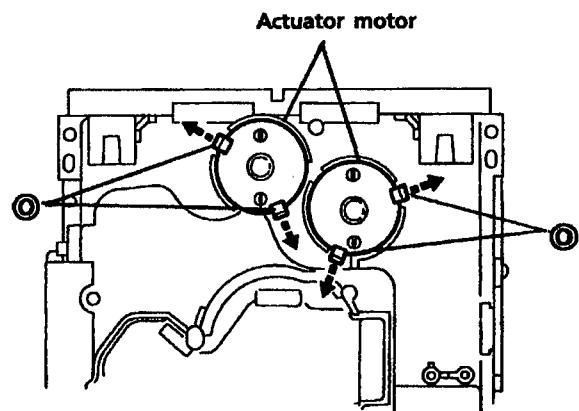

Fig. 39
5. Reverse the chassis ass'y and widen 4 pawls  $\textcircled{o}$  which secure both actuator motors to its arrows to remove the actuator motors. (See Fig.39.)